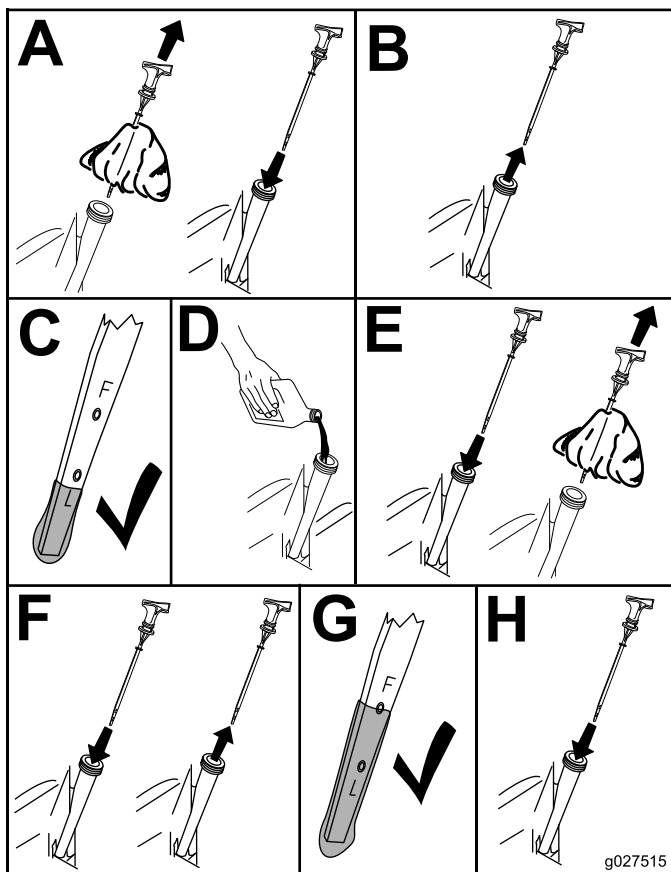

Figure 30
3. Check the engine-oil level (Figure 30).